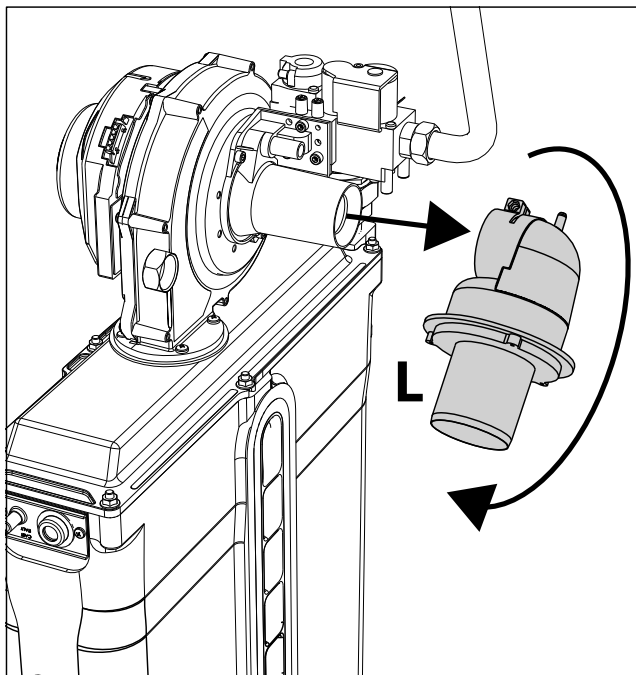

fig. 80
4. Rotate and remove the silencer "L" (see fig. 80).